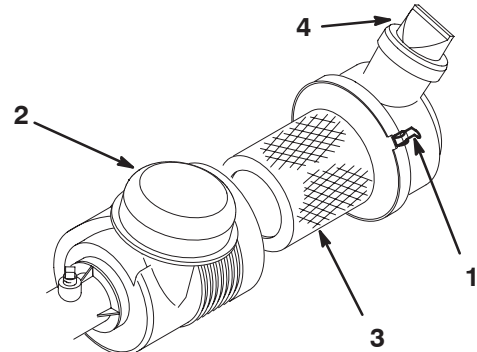

Figure 31
Check the air cleaner body for damage that could cause an air leak. Ensure that the dust cap is tightly sealed onto the air cleaner. Replace a damaged air cleaner body. Squeeze the valve (Fig. 31) before each use to clear it of dust and debris. Service the air cleaner filter every 100 hours.
3. Loosen the air cleaner strap that secures the air cleaner cover to the air cleaner body (Fig. 31) and separate the cover from the body.
7. Secure the straps (Fig. 31).
4. Install the cover with the valve pointing down and secure the straps (Fig. 31).